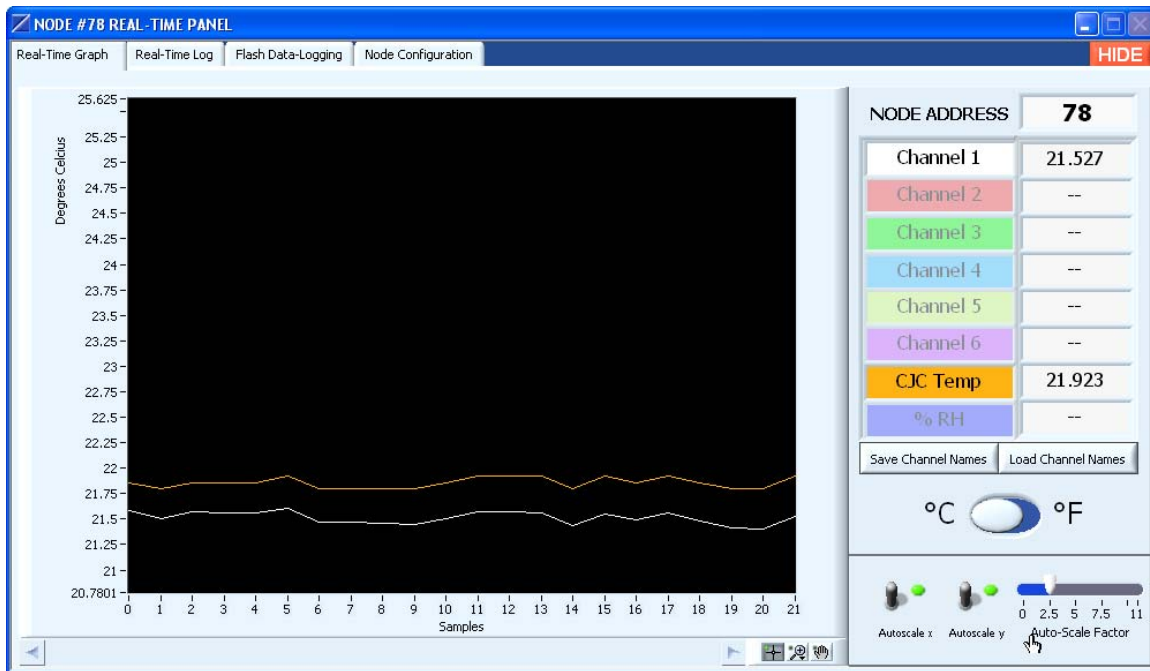

Figure 5
- Click the 78 and the Node #78 Real-Time Panel screen will appear with the Real-Time Graph tab in view. See Figure 5.